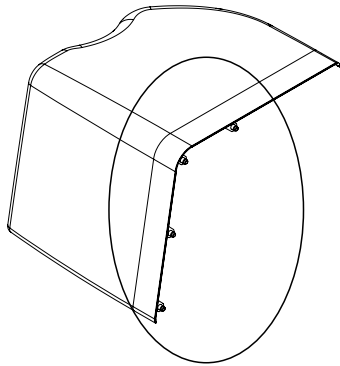
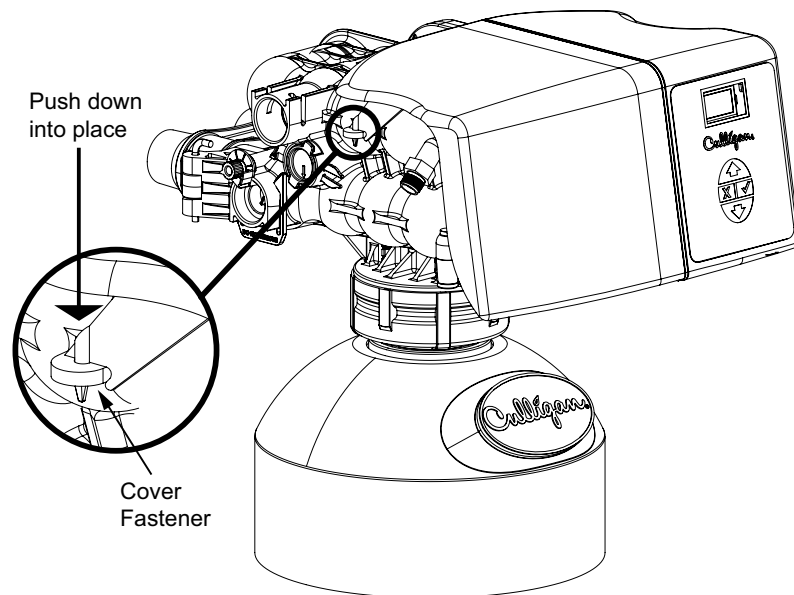

Figure 9. Cover fastener clip.
Figure 11. Reattaching the cover fastener.
Once the drain and brine line is connected re-attach the cover. Refer to the below instructions and Figure 9 through Figure 11.
1. Align the pins on the cover with the holes on top of the frame; the cover should be slightly angled. See Figure 9.
3. Attach the cover fastener onto the control valve. See Figure 11.